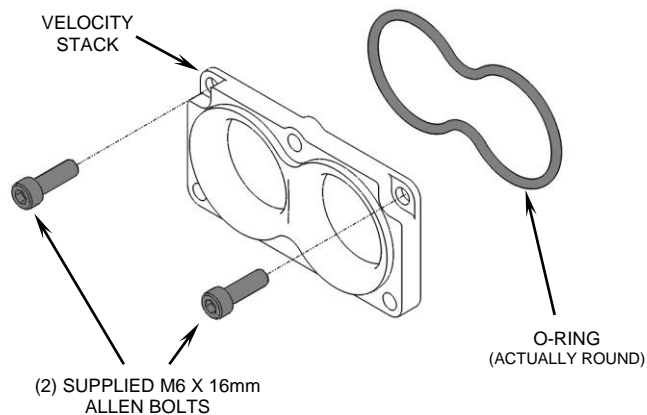

FIGURE 2
6. Bolt the velocity stack to the throttle body using the (2) supplied M6 x 16mm allen bolts and tighten. See Figure 2.